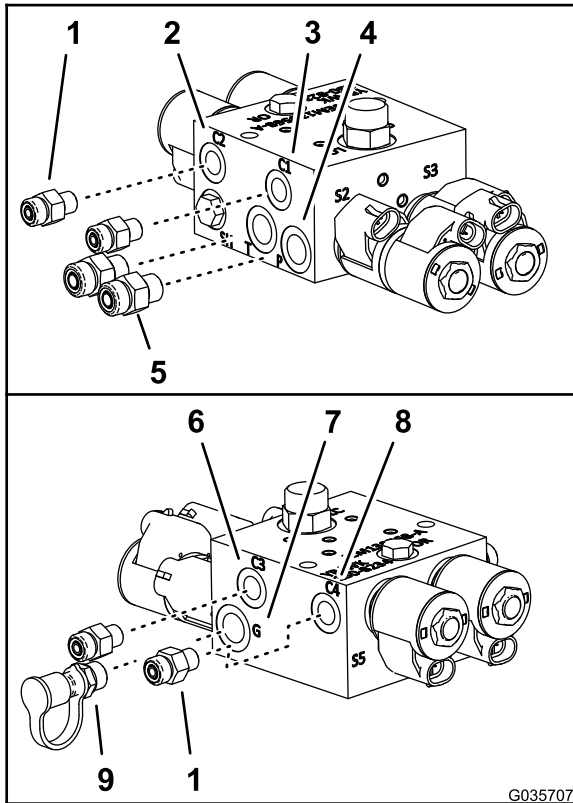

Figure 11
- At the new lift-cylinder manifold, assemble the straight-hydraulic fittings (Figure 11) that you removed in step 3 into port-P and port-T.
- Assemble the 4 straight-hydraulic fitting from the ultra sonic boom leveling kit into ports C1, C2, C3, and C4 of the new lift-cylinder manifold (Figure 11).
- Assemble the diagnostic fitting and cap that you removed in step 4 into port-G of the new lift-cylinder manifold (Figure 11).